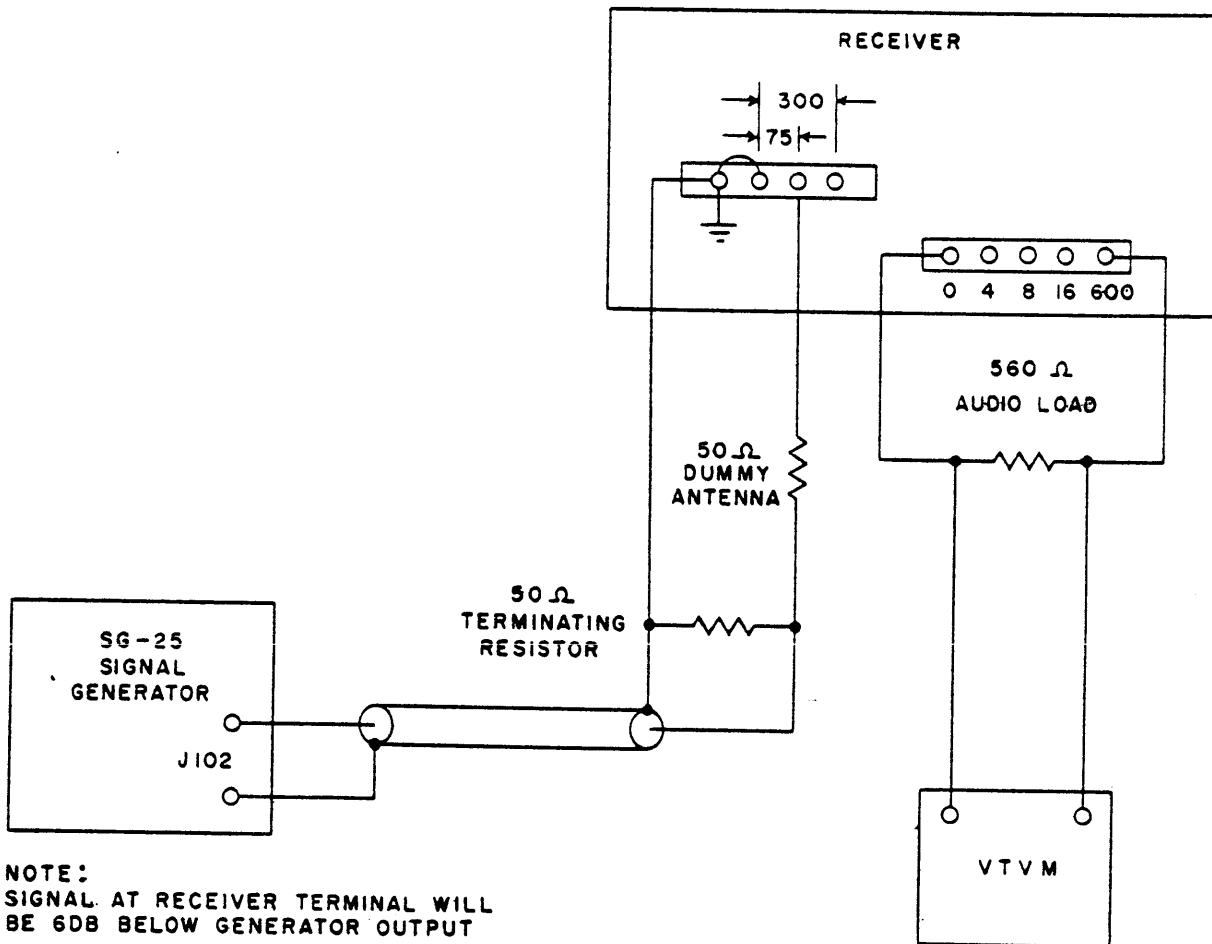

Figure 4-3. Test Equipment Connections for R-F Alignment and Sensitivity Test
- a. Connect signal generator, dummy antenna resistor, 560-ohm audio load, and a-c vtvms as shown in Figure 4-3.
b. Connect signal generator, dummy antenna resistor, 560-ohm audio load, and a-c vtvm as shown in Figure 4-3.
b. Connect signal generator and dummy antenna resistor to 75-ohm unbalanced antenna terminals as shown in Figure 4-3.